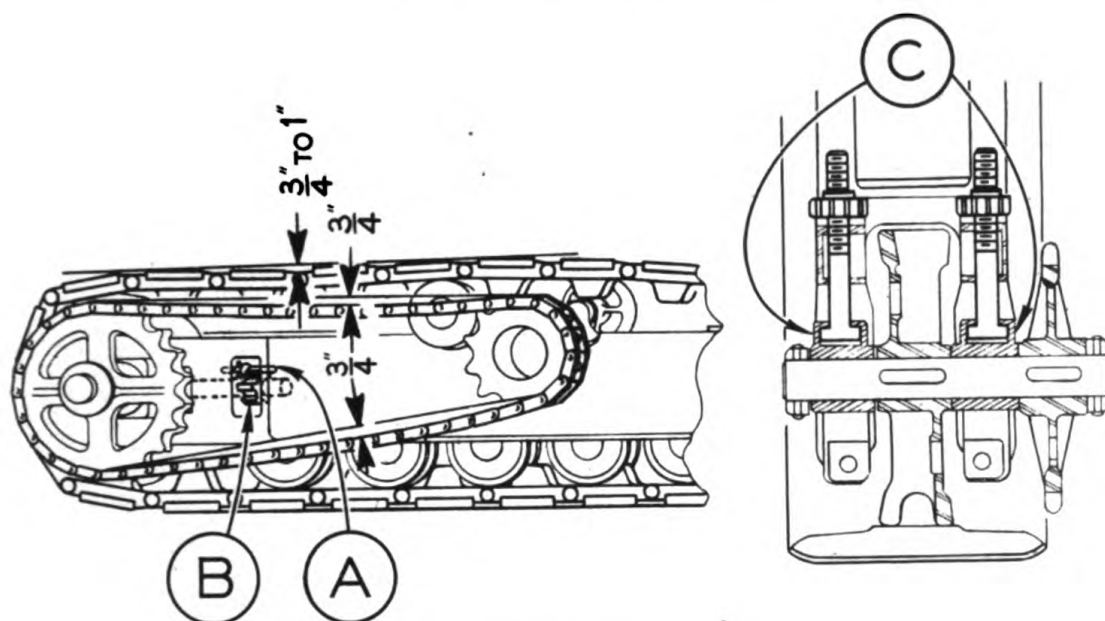

FIGURE 69
The right and left traction drive chains must have between  $3/4$ " to 1" sag at top and bottom as shown in Figure 69. It is important that the amount of sag be equal in both chains to evenly distribute the loads they carry and to insure straight traveling. When adjusting the drive chain there must be slack in the crawler belt because tightening the chain also tightens the belt. Remove lock pins (A) and turn adjusting nut on both the inside and outside adjusting bolts as required. The inside and outside bearings (C) must be kept in perfect alignment so that the traction drive chains will run true on the drive sprockets. Replace lock pins (A). Travel the machine forward the length of the crawlers. This brings all slack in the crawler belt to the top where it can be checked for proper sag which should be approximately  $3/4$ " to 1" as indicated.